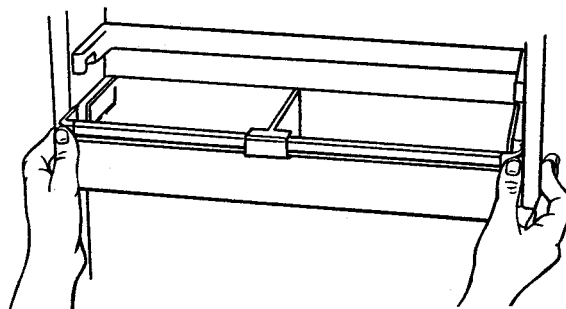

Figure 20
- To install, slide bucket into grooved area until tabs lock into place. See Figure 20.